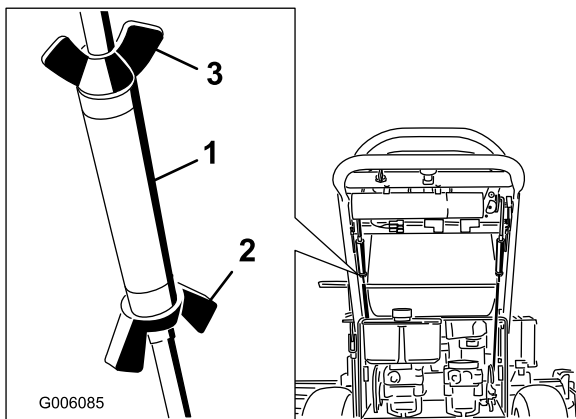

Figure 58
2. Loosen the wing nuts on the right control rod and rotate the turnbuckle in or out to ensure the right side control lever is centered in the neutral lock position. Secure the turnbuckle in position with the wing nuts (Figure 58).
3. Loosen the wing nuts on the left control rod and rotate the turnbuckle in or out to change the tracking. Secure the turnbuckle in position with the wing nuts (Figure 58).